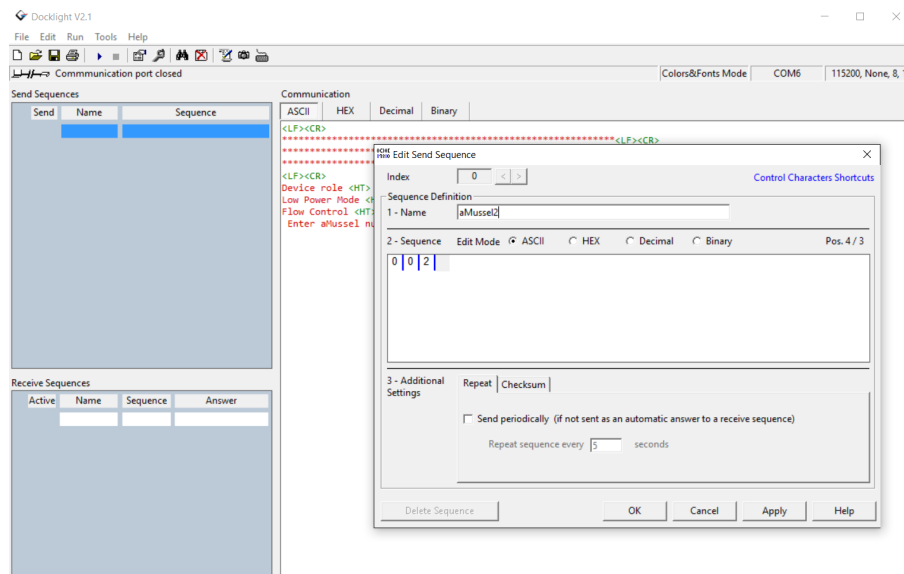

Figure 1.6: Selecting a device to connect to
5. The next step is to select device ID you wish to connect to. You do so by sending a sequence representing device's unique identifier. For example, if BLE board on aMussel is programmed to have ID 001, the sequence needs to match it. For reference, look at Figure 1.6.